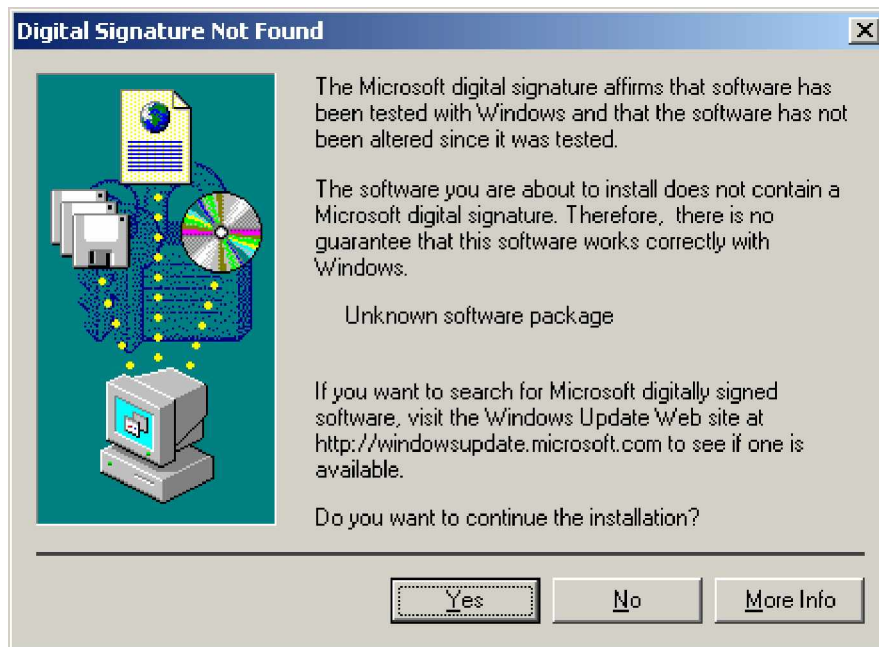

Figure 6-29: RAID Driver Digital Signal
Step 7: A "Digital Signal Not Found" screen appears (Figure 6-29). Click YES to continue the installation process.